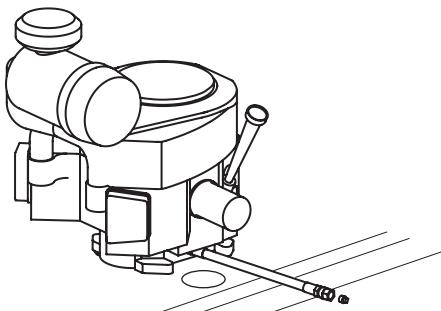

Figure 19
- Locate the oil drain hose on the engine. See Figure 19.
- While holding the free end of the oil drain hose over the oil collection container, unscrew the square-head hose plug from the end of the hose. See Figure 19. Drain the engine oil into the collection container.